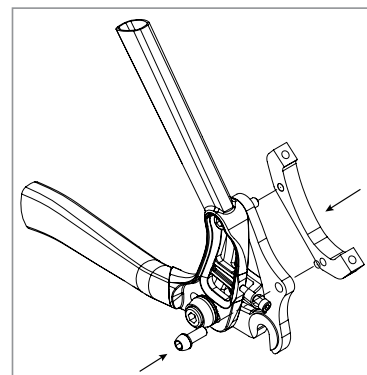

Figure 2
2. Mount your disc brake adapter using the same upper pivot bolt and 1 of the 2 bolts supplied with the brake adapter. Apply thread locking compound to both bolts. Secure the lower adapter bolt to the brake according to manufacturer's specification. Tighten the upper pivot bolt just enough to complete brake caliper installation. You will fully tighten it later after dropout adjustment is completed (fig 2).